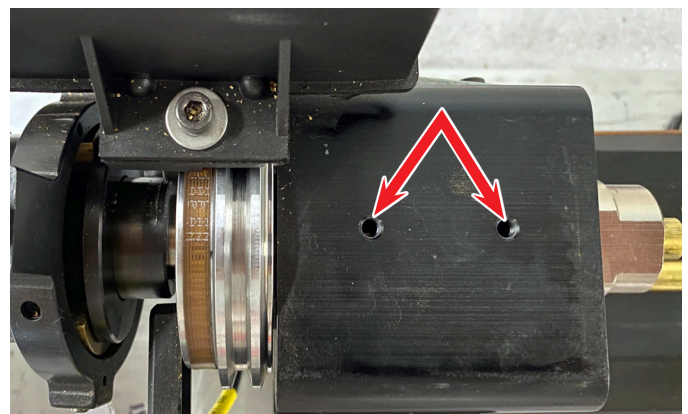

FIGURE 7
A. There are two existing 10-32 holes in the top of the 3C Headstock (see Figure 7).